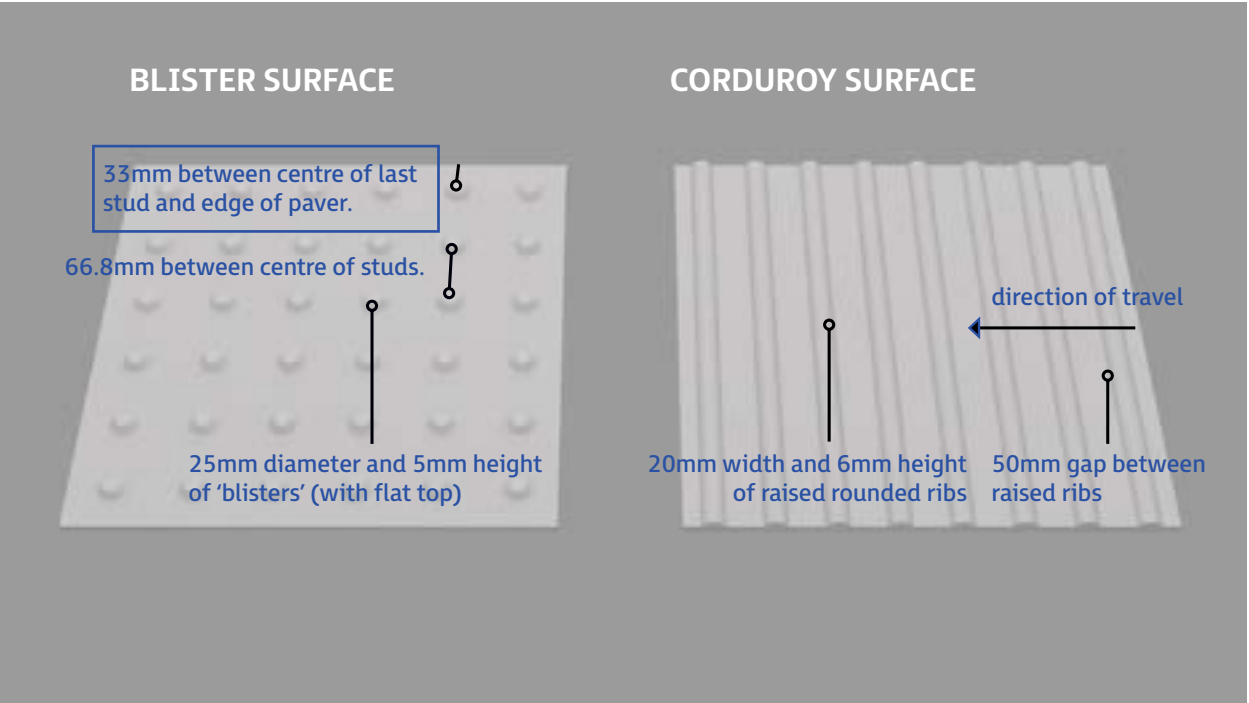

Figure 9 / Tactile Paving Surfaces
2. Tactile paving (blister type) is used to identify uncontrolled pedestrian crossing points and corduroy tactile hazard warning paving is used to identify the top and bottom of external steps (see figures 9 and 10). For signalised crossing points see Section 2.3.